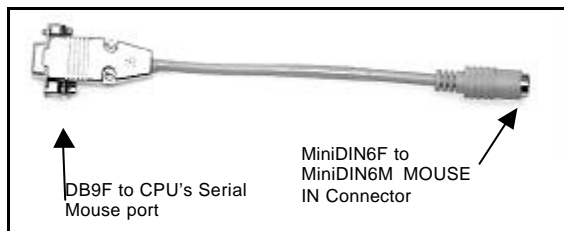

Figure 5-15 The Mouse adapter cable
- Mouse adapter cable – P/N 1SU41002 - See Figure 5-15